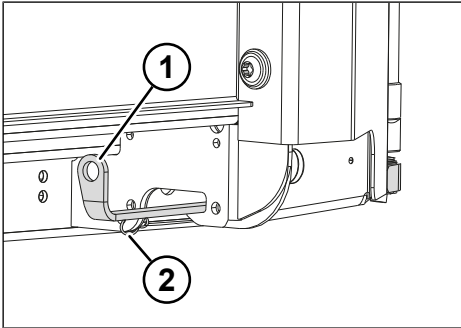

Fig. 6-25: Version 1 tension lever
- ▶ Hook on the retainer hook (see "Fig. 6-25: Tension lever", pg. 78).